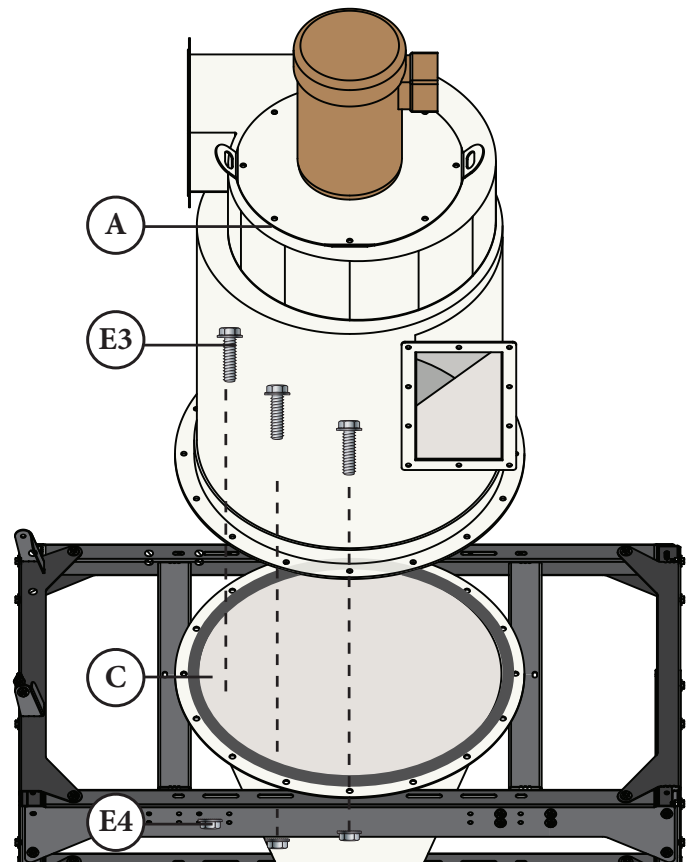

FIG. 8
- 8** Once your cone is aligned with the stand, lift the Fan Blower Assembly (A) onto the Cone (C), making sure to align the corresponding flange holes.
Thread sixteen 5/16" -18 x 1.25" Bolts (E3) through the aligned holes of the Fan Blower Assembly (A), the Cone (C), and the Stand (H). Secure each of the bolts in place using twelve 5/16" Whiz-Lock Nuts (E4) [FIG 8].